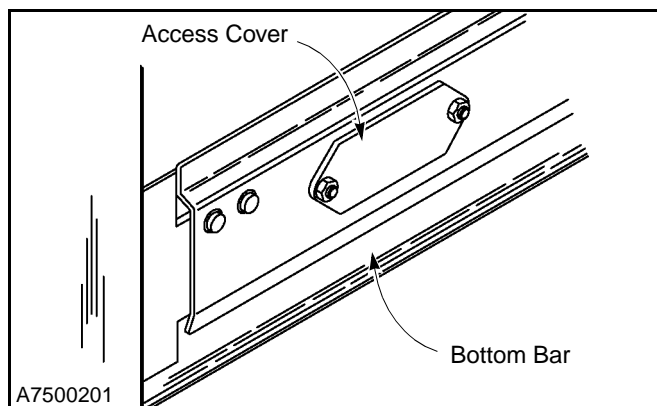

Figure 32
2. Remove the reversing edge switch access cover. The reversing edge switch is mounted behind the access cover at the end of the bottom bar, opposite the coil cord. (See Figure 32.)